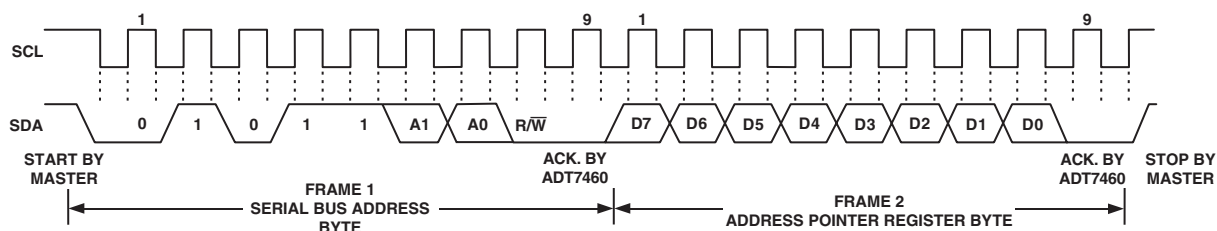

Figure 8. Writing to the Address Pointer Register Only
1. If the ADT7460's address pointer register value is unknown or not the desired value, it is first necessary to set it to the correct value before data can be read from the desired data register. This is done by performing a write to the ADT7460 as before, but only the data byte containing the register address is sent as data is not to be written to the register. This is shown in Figure 8.
2. If the address pointer register is known to be already at the desired address, data can be read from the corresponding data register without first writing to the address pointer register, so Figure 8 can be omitted.